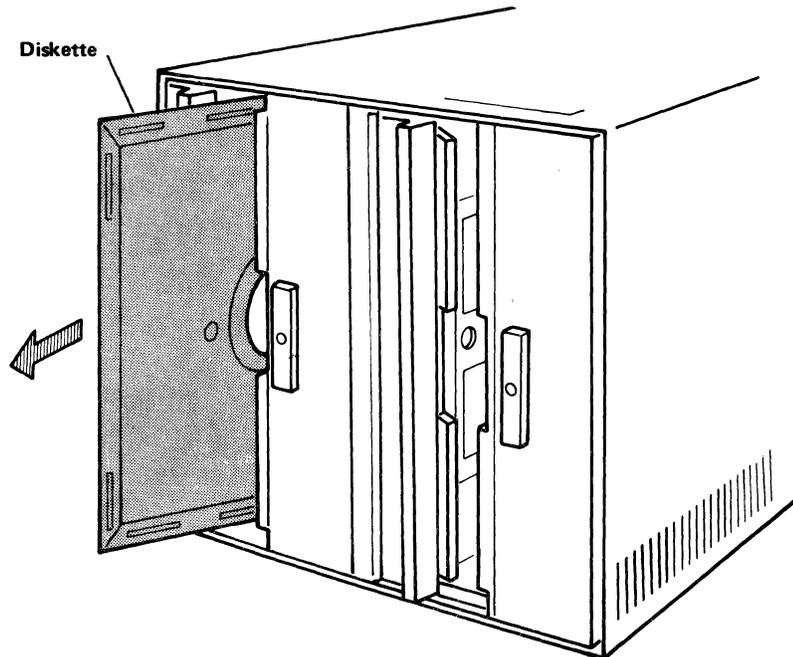

Figure 4-35. 8" Diskette Removal.
1. Remove any diskettes, if present (See Figure 4-35).